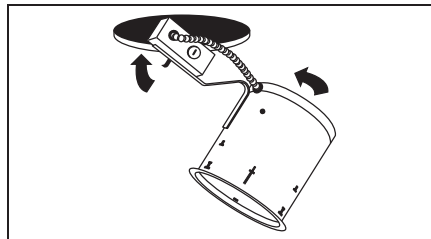
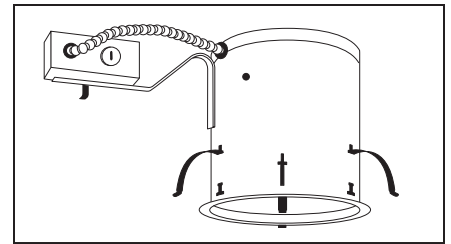

Figure 4
Figure 5
Step 4. Insert housing through ceiling opening so it is flush to ceiling (Fig. 4). Make sure the foam gasket is in place between the ceiling and the can metal ring. Push retention clips outwards until each clip tab clicks into position. Insert clip through "T" slot from inside housing, force clip down with screwdriver until clip is seated. Secure clip by tightening screw (Fig. 5). **(Note: to remove housing from ceiling, push tab on clip upward to disengage).**